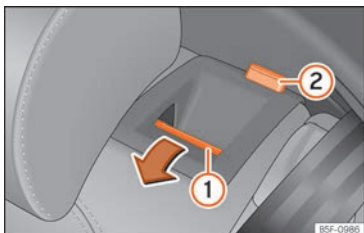

Fig. 163 On the rear seat backrest: release button (1); red mark (2).
- Push the unlock button »» Fig. 163 (1) in the direction of the arrow and at the same time fold down the backrest.
- The rear seat backrest is not engaged when the red marking of the button (2) is visible.
The rear seat backrest is not engaged when the red marking of the button »» Fig. 163 ② is visible.